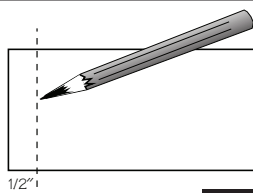

Figure 1
- 1** You will begin by mounting the decorative furniture legs to either side of the toe kick overlay. Mark a light pencil line  $\frac{1}{2}$ " from either end of the toe kick overlay as shown in Figure 1.